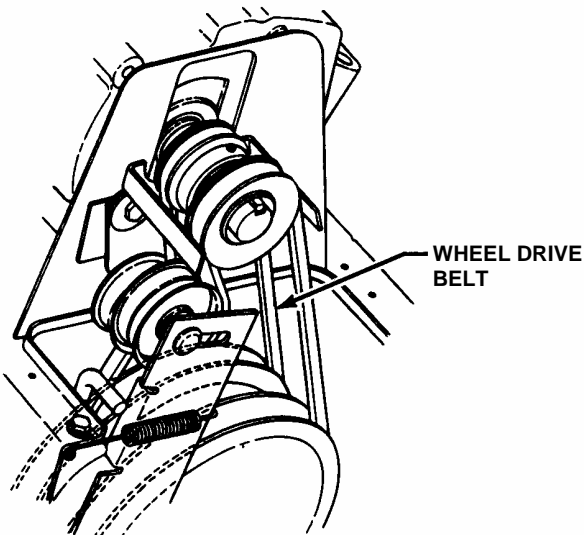

FIGURE 3.2
1. Visually check wheel drive belt for cracking, fraying, severed or belt strands exposed. Replace belt before operating snow thrower. See Figure 3.2.